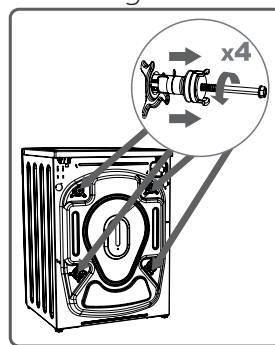

Fig 3
- 2:** Remove the bolts by pulling them. (Fig 3)